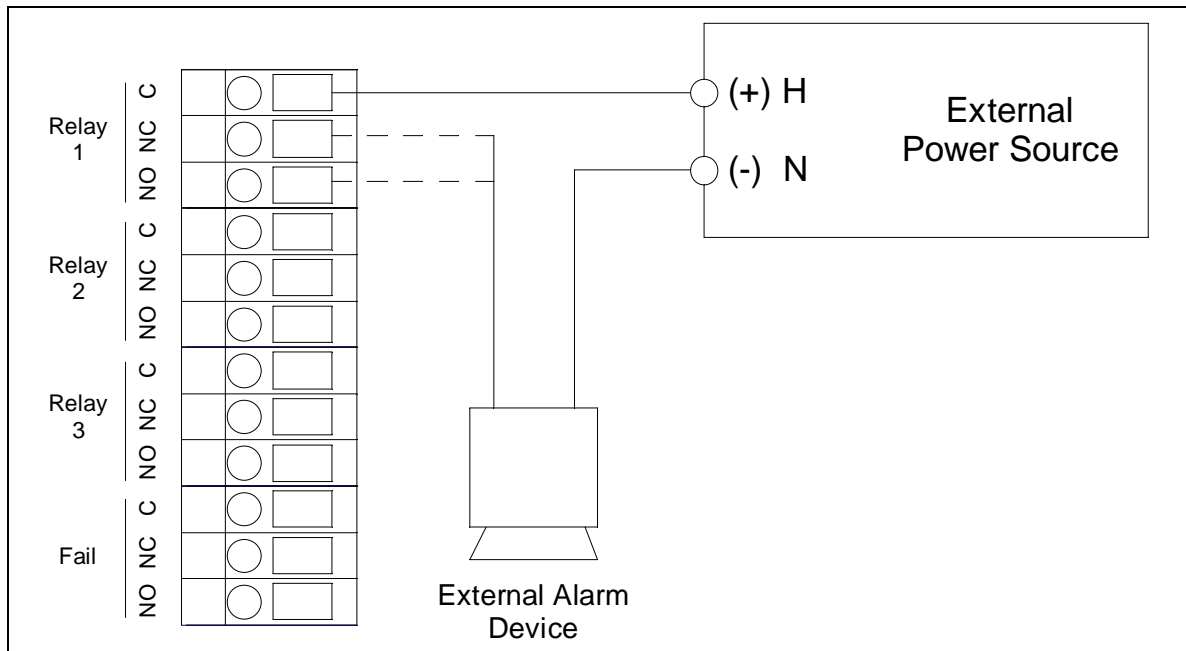

Figure 23: Wiring to the Main and Fail Relays
- Connect the leads from the external alarm device and an external power source to the selected main or fail relay terminals as shown in Figure 23.